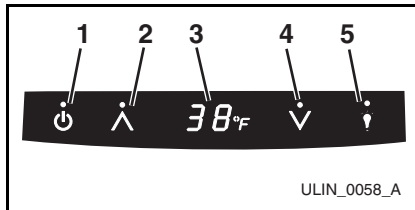

Figure 5
The electronic control with digital display (**Figure 5**) is configured to show a single temperature continuously. This set-point temperature is a base number used by the controller to maintain the temperature zone in your unit. The factory default set-point is 38°F. This set-point temperature is used as a gauge if further temperature adjustments are required.
U-Line products supplied for 110 VAC operation have temperatures displayed in a default Fahrenheit (°F) configuration (**Figure 5, 3**). Models supplied for 220 VAC operation have temperatures displayed in a default Celsius (°C) configuration.
The display can easily be adjusted for either type of temperature display. Press and hold the LIGHT icon (**Figure 5, 5**) and within five seconds press the COOLER icon (**Figure 5, 4**) three times to change the display as desired.
1. Touch and hold the WARMER icon (**Figure 5, 2**) for approximately five seconds and release when the °F symbol in the display (**Figure 5, 3**) begins to flash.
2. The display (**Figure 5, 3**) will indicate the actual refrigerator temperature.